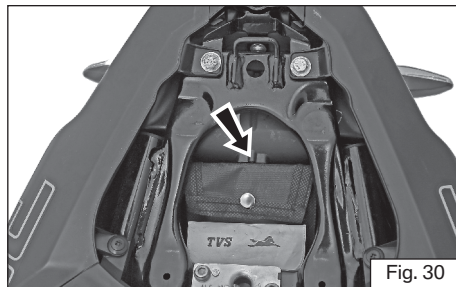

Fig. 30
- ♦ Take off the tool kit from the storage (ref. Fig. 30)